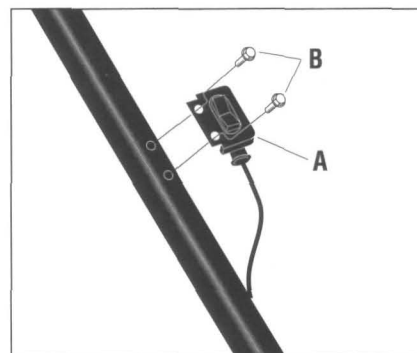

Figure 2-3: Install Engine ON/OFF Switch.
**A.** The engine ON/OFF switch assembly (**A**, Figure 2-3) is connected to a long wire that leads from the back of the engine.
**C.** With a 5/16" wrench, attach the switch bracket with two #10-24 x 1/2" self-threading hex/washer head screws (**B**, Figure 2-3).